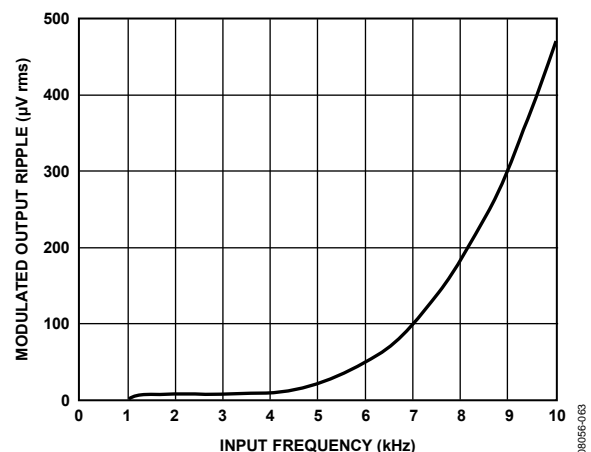

Figure 60. ADA4051-1/ADA4051-2 Modulated Output Ripple vs. Input Frequency
The remaining voltage ripple originates from two sources. The first type of ripple is due to the residual ripple associated with the initial offset of the Gm1. It is proportional to the magnitude of the initial offset and creates a spectrum at the chopping frequency ( $f_{CHOP}$ ). When the amplifier is configured as a unity-gain buffer, this ripple has a typical value of 4.9  $\mu\text{V rms}$  and a maximum of 34.7  $\mu\text{V rms}$ . The second type of ripple is due to the intermodulation between the high frequency input signal and the chopping frequency. This ripple depends on the input frequency ( $f_{IN}$ ) and creates a spectrum at frequencies equal to the difference between the chopping frequency and the input frequency ( $f_{CHOP} - f_{IN}$ ), as well as at frequencies equal to the summation of the chopping frequency and the input frequency ( $f_{CHOP} + f_{IN}$ ). The magnitude of the ripple for different input frequencies is shown in Figure 60.
- No affect on the desired input signal as long as its frequency is much lower than the chopping frequency shown in Figure 60